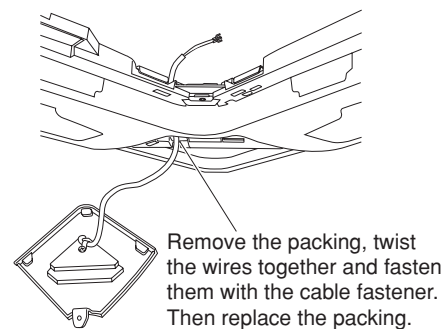

Fig. 11-3
- (3) The square hole used for the panel wiring is filled with packing (sponge material) used for insulation.* Remove the packing, then pass the wiring from the wireless receiver unit through the grill. Twist the wires together and use a cable fastener to fasten them and fix with screw, then replace the packing in the hole as it was before. (Fig. 11-3)
- (4) After completing wiring as described in “Wiring the Receiver Unit” on the next page, twist the wires together and use a cable fastener to fasten them, leaving a length of wiring that is long enough to permit removal of the adjustable corner cap. (Fig. 11-3)